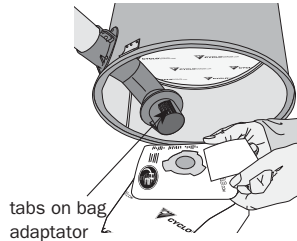

figure 15
3. Install the new bag, ensuring the tabs on the bag adaptor are aligned with the slots in the bag collar (**figure 15**).